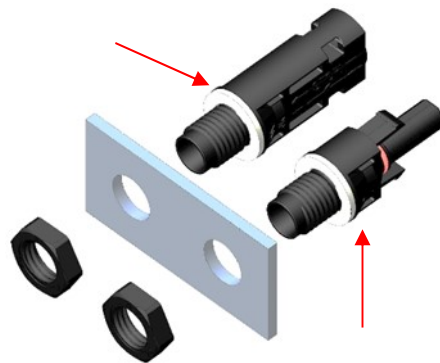

Figure 16
- ✧ 在公/母面板连接器插入钻孔前，请确保已安装防水垫圈，且防水垫圈安装在墙板的外侧 (如图 16)。
In mounting position, the seal gasket must lie even on the outside of the mounting surface (Fig.16).